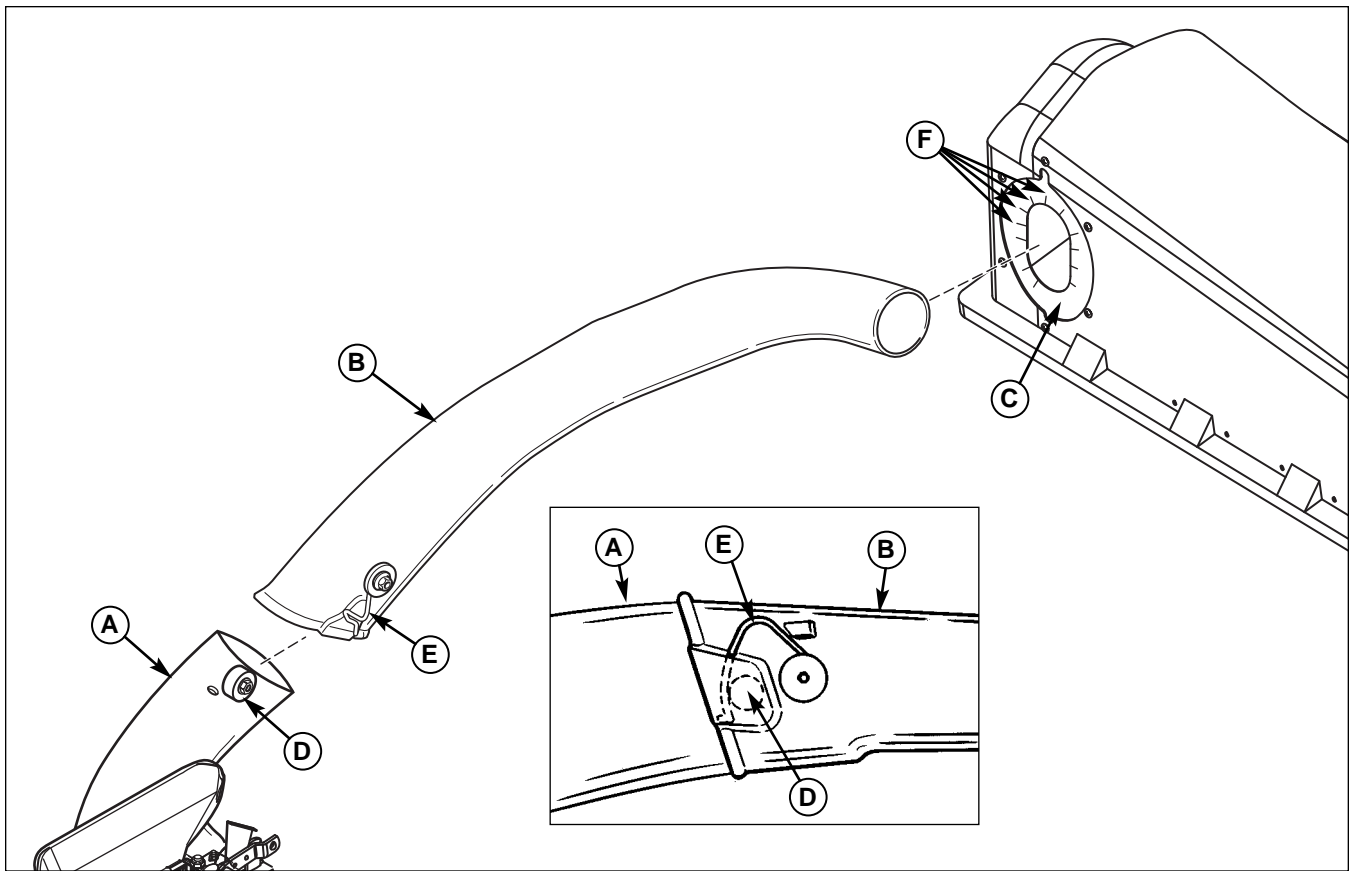

Figure 12. Install Discharge Tube
1. Slide discharge tube (B, Figure 12) into seal (C). It may be necessary to lengthen several slits (F) in order for tube (A) to fit into seal (B)
2. Attach the discharge tube (B and Inset) to boot (A) and secure the tube by moving wire form (E) down over metal puck (D).